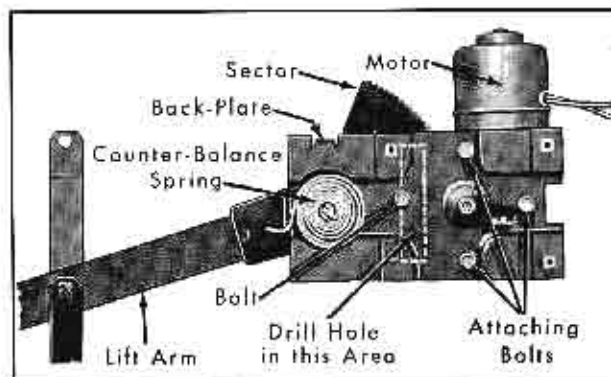

Fig. 3-40 Electric Window Regulator
2. Drill 1/4" hole through backplate and sector within area indicated in Fig. 3-40, depending on position of lift arm.
4. Remove the three (3) attaching bolts Fig. 3-40, and remove motor assembly from regulator.